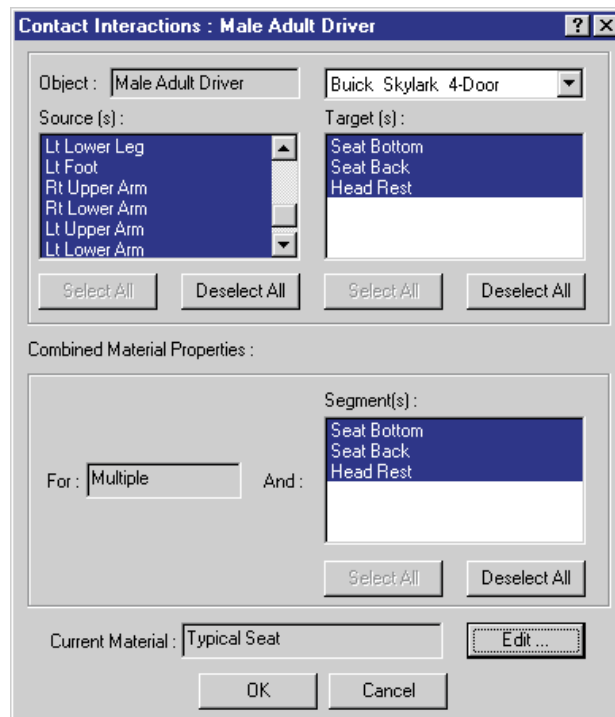

Figure 5-15 Combined Material Properties dialog.
- Choose *Contacts* from the *Set-up* Menu (Figure 5-15).